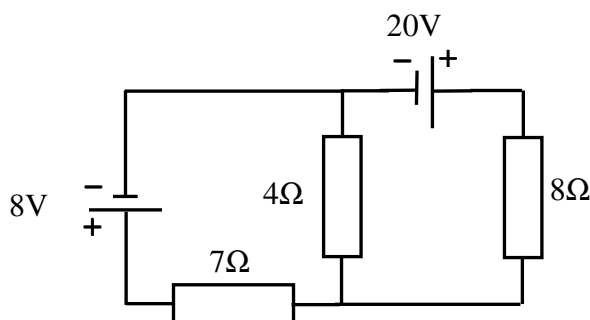
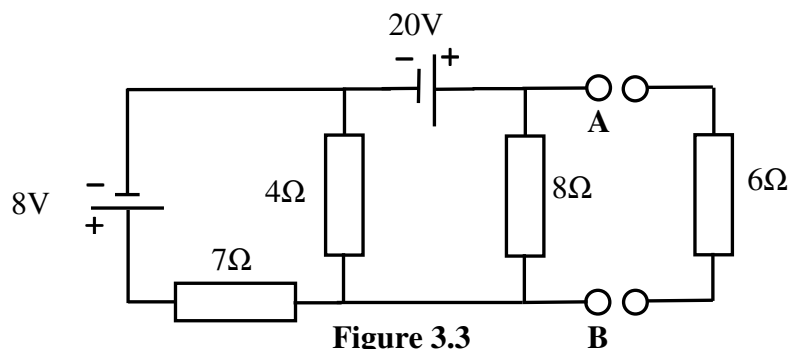

Figure 3.1
Figure 3.3
- a. For the network shown in Figure 3.1, find the value of the current through the  $4\Omega$  resistance using the method of superposition. Indicate the direction of the current. (6)
- c. The network of Figure 3.1 is to be used as a source for a load resistor of  $6\Omega$ , which is connected between A and B, as shown in Figure 3.3. Derive the Thevenin equivalent circuit for the source and hence calculate the power dissipated in the load resistor. (6)
- d. A rechargeable battery of nominal voltage of 18V is now connected between A and B (positive terminal connected to A) of Figure 3.3 in place of the  $6\Omega$  load resistor. Determine whether this battery will receive or deliver power and find the magnitude of the current passing through it when it is fully charged (18V). Assume that the battery has a negligible internal resistance. (2)
- e. Calculate the Norton equivalent circuit for the source network shown in Figure 3.3 (i.e. not including the load resistor). (2)